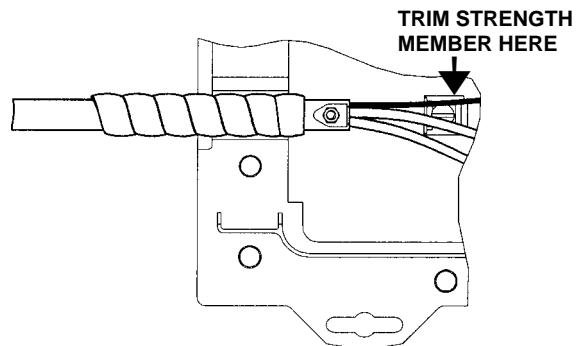

FIGURE 10 - TRIM STRENGTH MEMBER
6.06 Trim the strength member of each cable so that it will be captured within the strength member hold-down clip. (Figure 10)